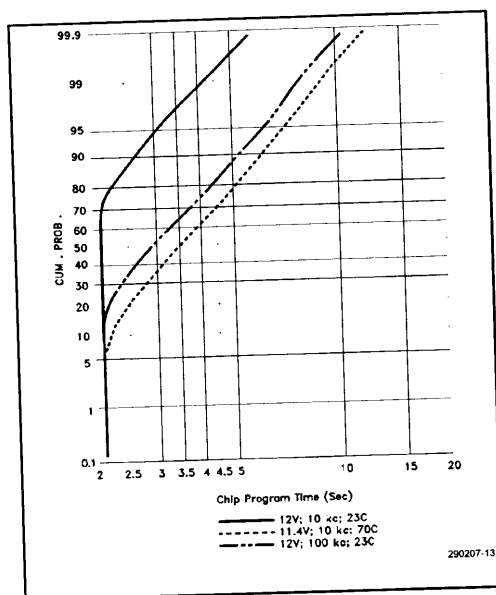

Figure 9. 28F010 Typical Programming Capability
4. See *High Speed AC Testing Input/Output Waveform* (Figure 8) and *High Speed AC Testing Load Circuit* (Figure 9) for testing characteristics.